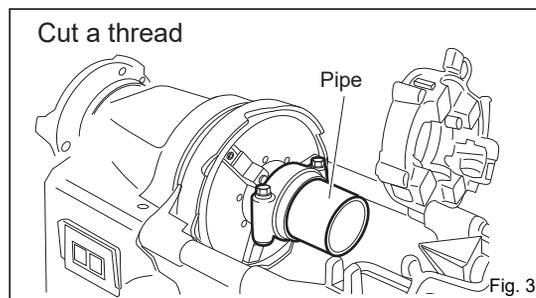

Fig. 3
3. Screw in a properly threaded pipe until it reaches the End block. (Fig. 3)